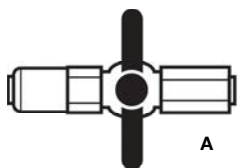

Figure 6.8. Two-way stop cock. (A) Closed configuration (B) Open configuration.
6. Remove the flow adaptor from the column. Place the two-way stopcock on the luer fitting at the bottom of the column and close the stopcock. This is done by turning the white arm perpendicular to the flow path (Figure 6.8). Your column is now ready to pack.